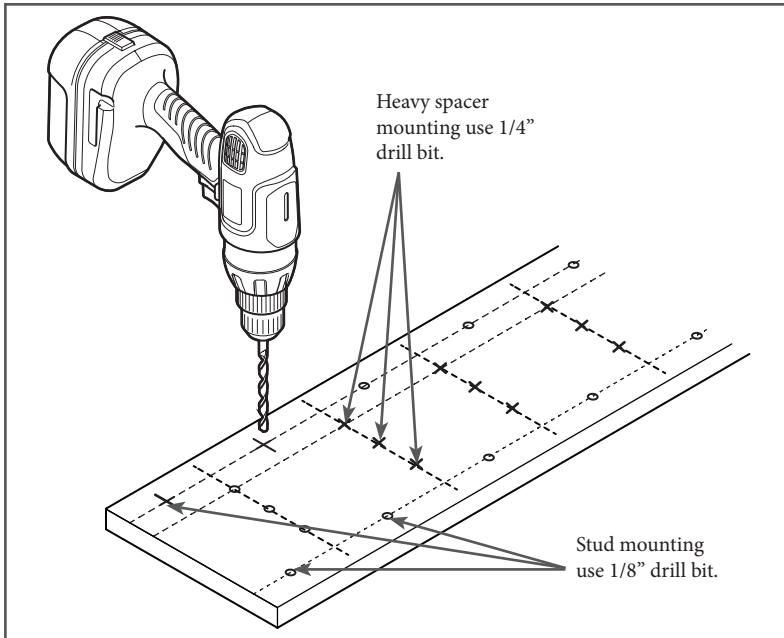

Figure 7
7. Drill out the holes marked for stud mounting using a drill and 1/8" drill bit. Drill out the holes marked for heavy spacer mounting using a drill with a 1/4" drill bit (Figure 7).